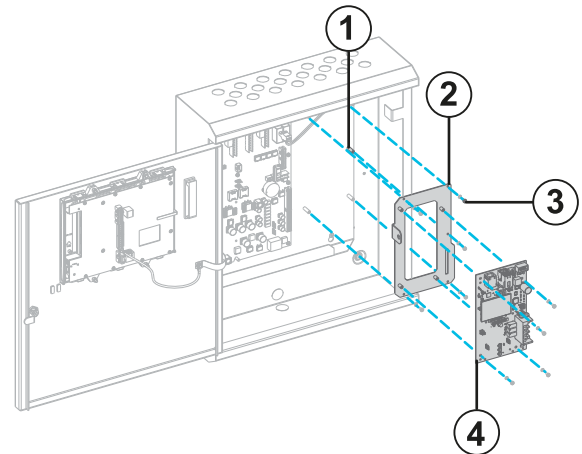

Fig. 27: Mounting boards on a FC602S panel
- 1 Attach an A16381TMRV mounting plate, item 2 in Fig.27, to the pillars in the CIE case using five M3 screws, item 3. If there are other cards in the stack, they might also need the M3 x 25 pillars.
- 2 Attach the CSG PCBA, item 4, to the plate using M3 screws, item 3.